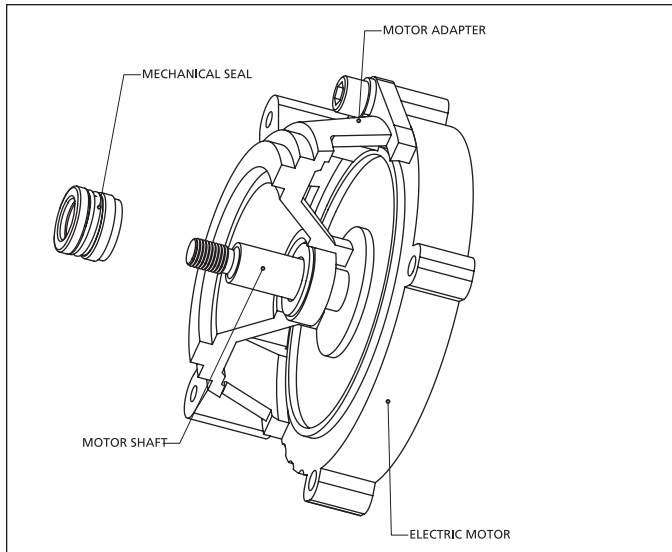

Figure 4 - Seal Removal
3. The seal (Ref. No. 5) can now be pulled from the shaft. (see Figure 4).
### Seal Assembly Removal and Installation (Figures 4 thru 7)